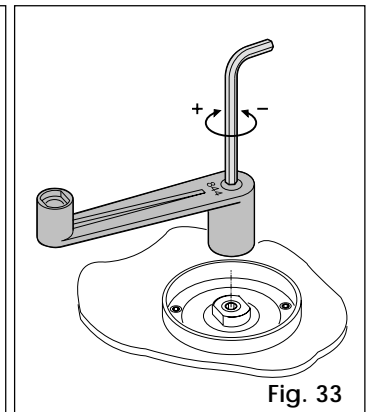

Fig. 33
- 3) Keep the driving shaft in position by means of the supplied lever, and adjust the clutch as shown in Fig. 33. To increase torque, turn the screw clockwise. To decrease torque, turn the screw counterclockwise.